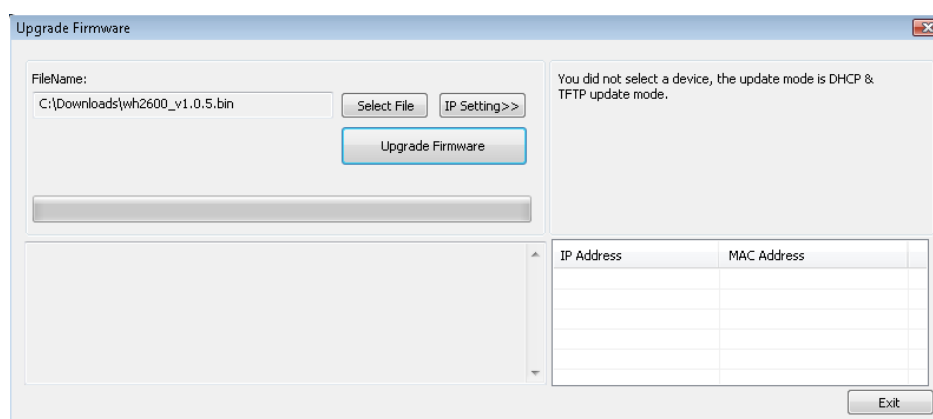

Figure 39
4. Reference Figure 39. Select the **Select File** button, and browse to the location of the file you downloaded in Step 1.